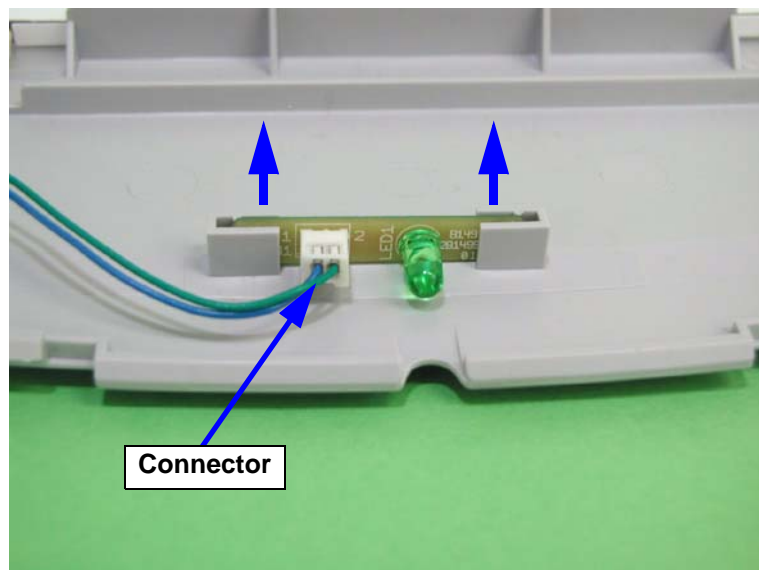

Figure 4-42. SUB_B Circuit Board Removal
2. Disconnect the connector (CN1), and then remove the SUB_B circuit board. (See Figure 4-42)